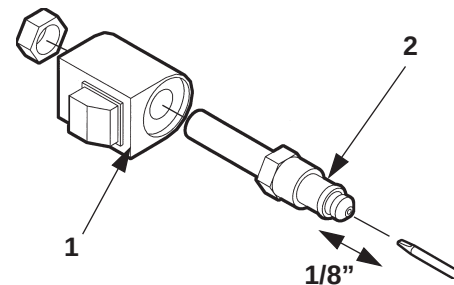

FIG. 41-2
2. Check the Valve Stem by removing the Coil Assembly (Item 1, FIG. 41-2). With platform on ground, unscrew the Valve Stem, (Item 2, FIG. 41-2) from the Pump. Push on the plunger that is located inside the Valve Stem by inserting a small screwdriver blade in the end. If the Plunger does not move freely (approximately 1/8") replace the Valve Stem. **When reinstalling valve stem, torque hex nut to 30 in-lbs.**